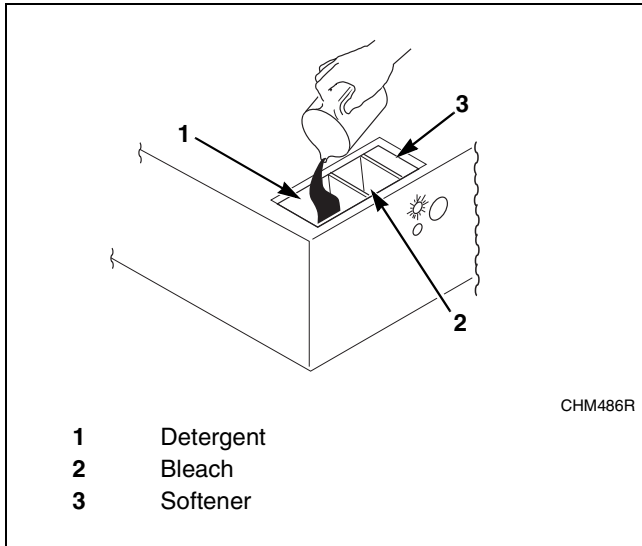

Figure 8
8. Add liquid and/or powder supplies to supply dispenser. Refer to *Figure 8*.